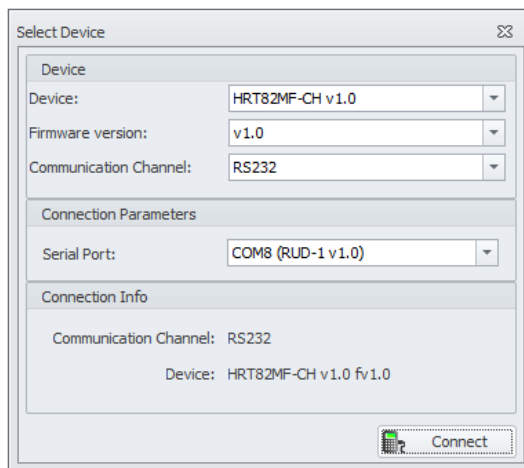

Fig. 7 Device select window in RogerVDM software
5. In the opened window select device, firmware version, communication channel and serial port with connected RUD-1 – see fig. 7